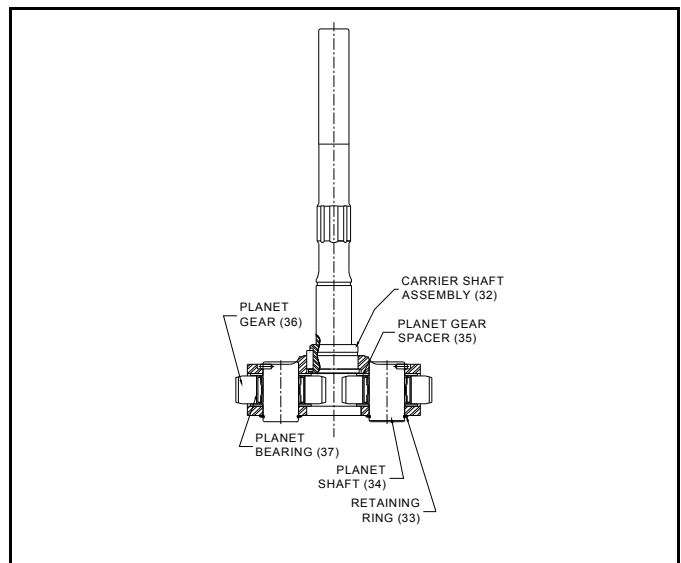

Figure 6. Carrier Shaft Disassembly
Remove snap ring (33) from planet shaft (34) and push shaft through holes in assembly. Refer to figure 6.